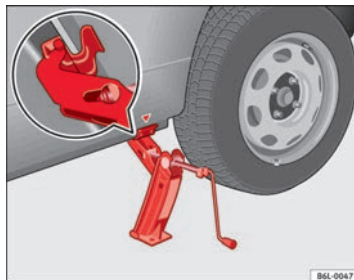

Fig. 147 Fitting the jack
- Align the jack so that the arm of the jack fits around the rib under the door sill and the movable base plate of the jack is flat on the ground ⇒ **fig. 147**.